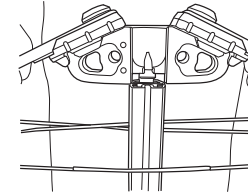

Figure 3
- 12 Slide the bow unit into place onto the barrel making sure the cables and cable slide are positioned in the cable slot in the barrel. The crossbow string should be resting on the top surface of the barrel and the cable slide will be held captive in the cable slot (See Figure 3).